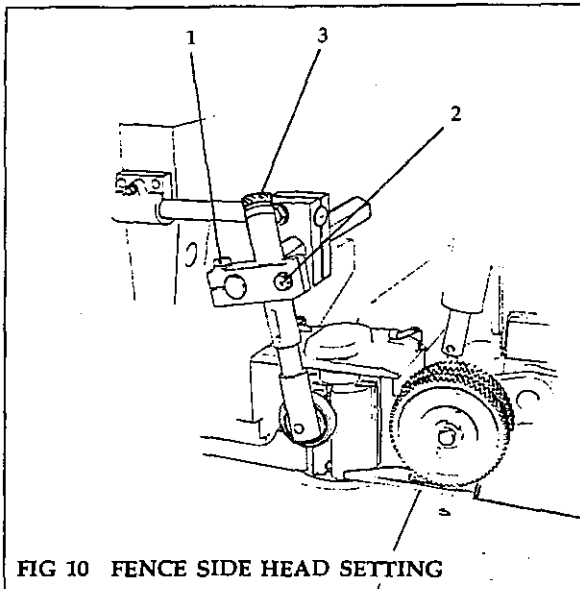

FIG 10 FENCE SIDE HEAD SETTING
**Check/Adjust at Fence Side Head (Fig 10)**
- (1) Adjust the top roller pressure to the timber as follows:
- a. Adjust the top roller by loosening screw (1) for lateral adjustment and screw (2) above the roller for height adjustment. Retighten screws.
- (2) Apply tension to the roller by adjusting the knurled head screw (3).